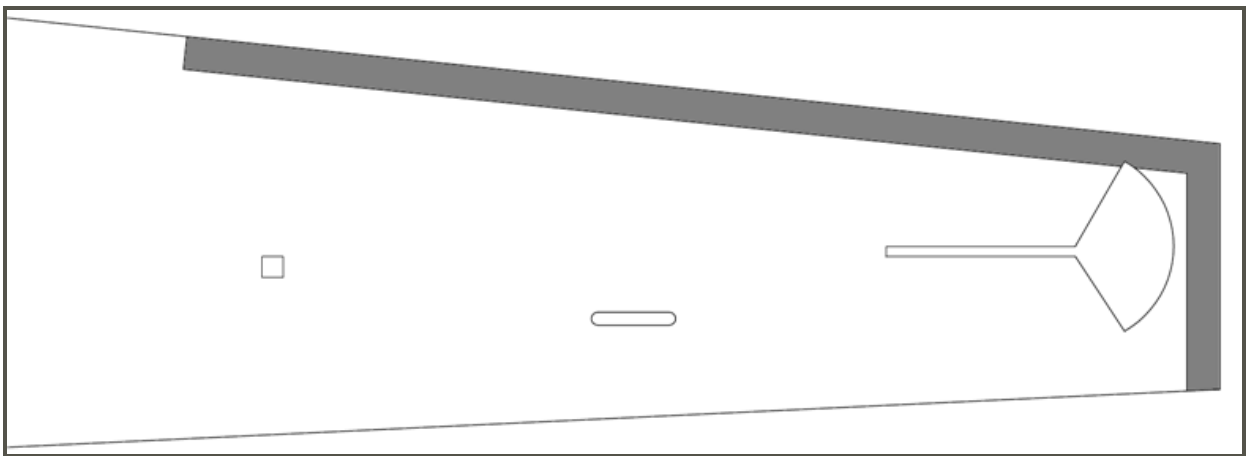

Figure 13 - Fuselage Beveling Reference
- Using sandpaper affixed to a flat sanding block, sand a slight bevel along the fuselage sides (C1 & C2) in the area marked in gray in *Figure 13*. The objective here is to increase the bonding area without making the resulting sides too thin. For the top you are aiming for a bevel that will reduce the edge of the fuselage from 2mm to 1mm gaining about ½" to ¾" in depth. For the rear of the fuselage you will sand slightly less, you need to reduce the thickness from 2mm to 1.5mm gaining about ¼" to ½" in depth.